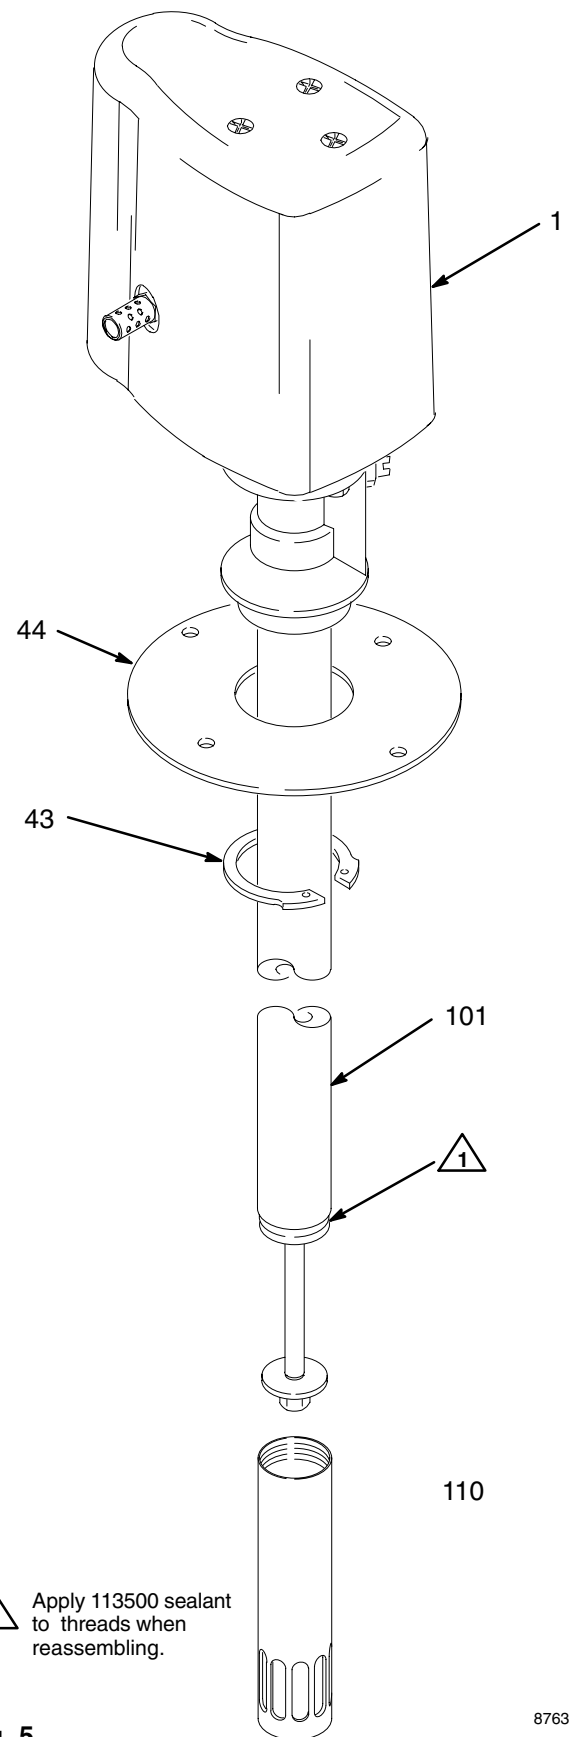

Fig. 5
2. Remove the retaining ring (43) and slide the mounting plate (44) off the pump. See Fig. 5.
4. Use a pipe wrench on the lower part of the outlet housing (18) to loosen the air motor (1) from the cylinder (101). See Fig. 5.
4. Apply thread sealant (113500*) and screw the intake cylinder (110) onto the pump cylinder (101). See Fig. 5.
5. Remove the pump from the vise. Reinstall the mounting plate (44) and secure with the retaining ring (43).